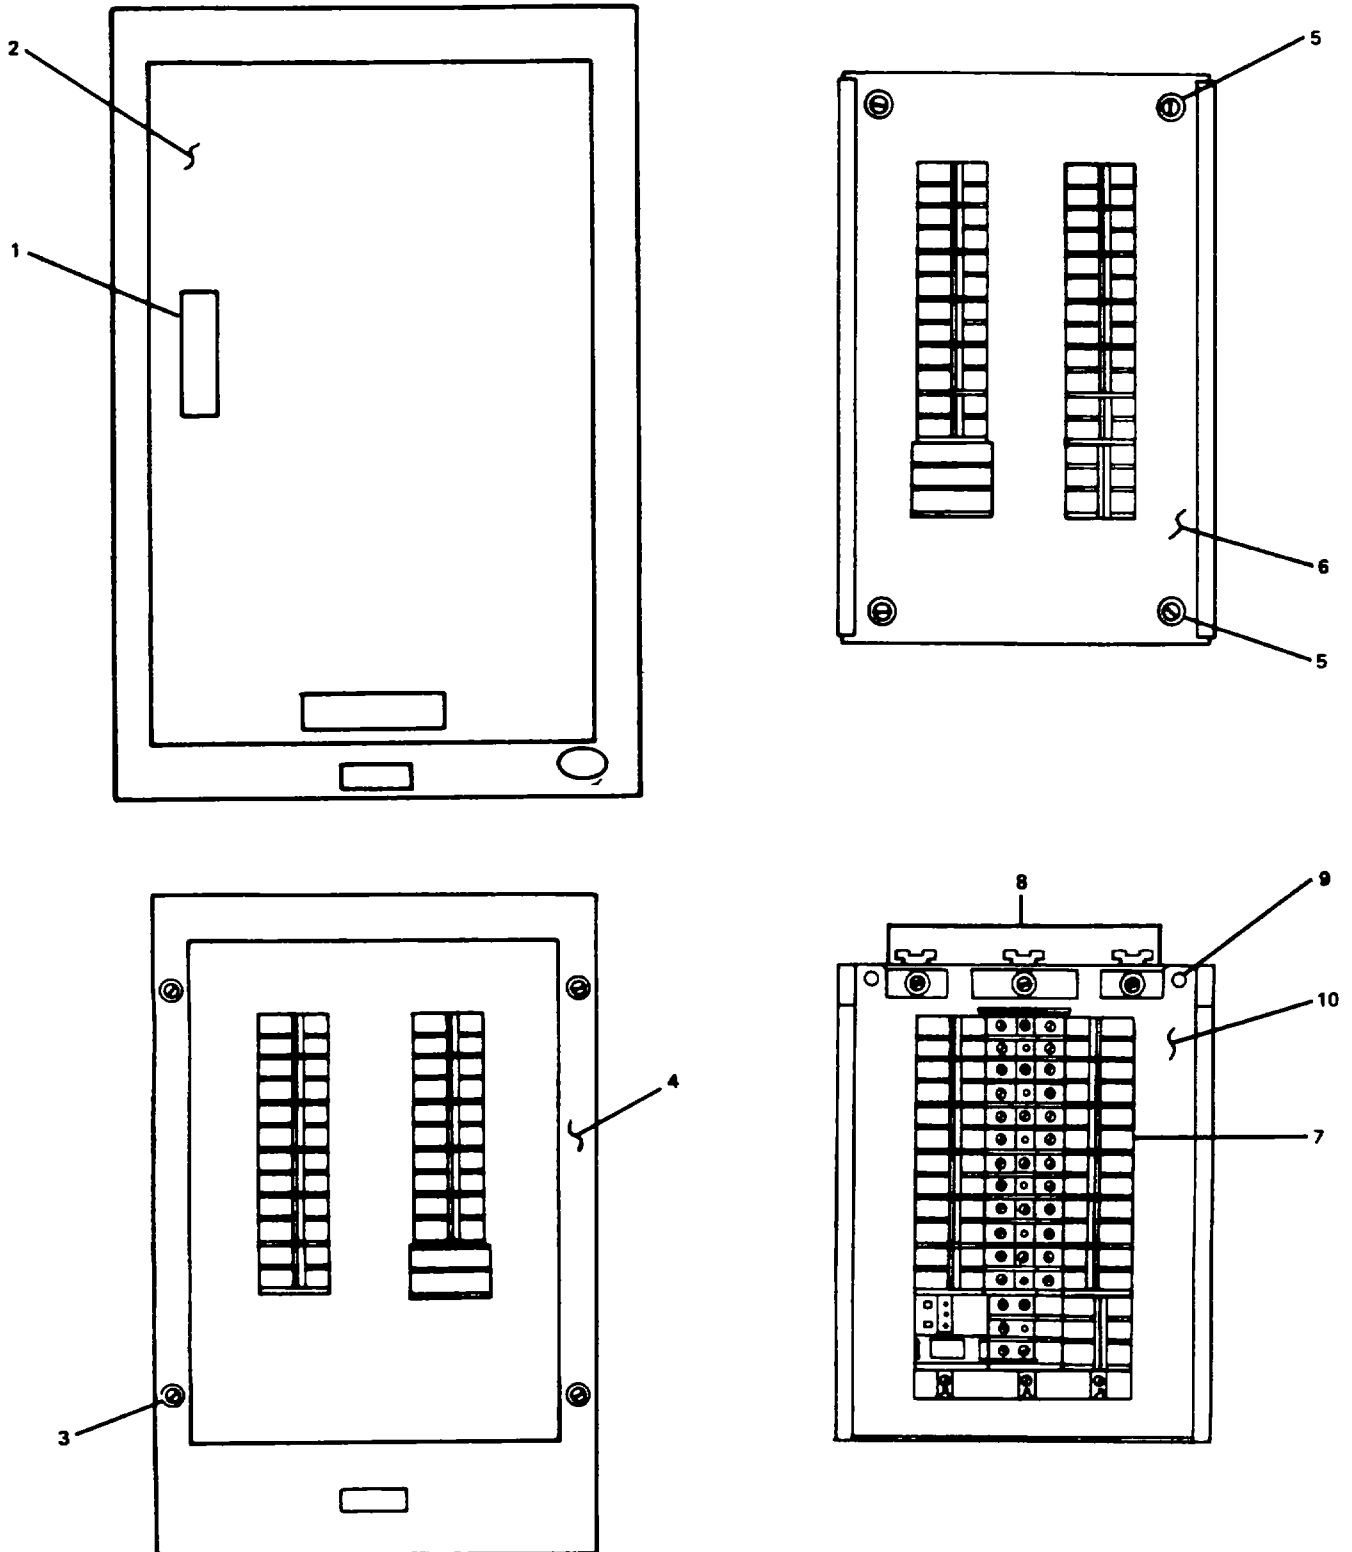

Figure 2-58. Replace Distribution Panel (Typical).
- a. Press key latch (1, Figure 2-58) and open door (2).
- b. Loosen four screws (3) and remove face panel (4) and door (2).
- c. Remove four screws (5) from inner-face panel (6). Remove panel.
- d. Tag and disconnect electrical wiring to circuit breakers (7) and bus bars (8).
- e. Remove four wing nuts (9). Remove component panel (10).